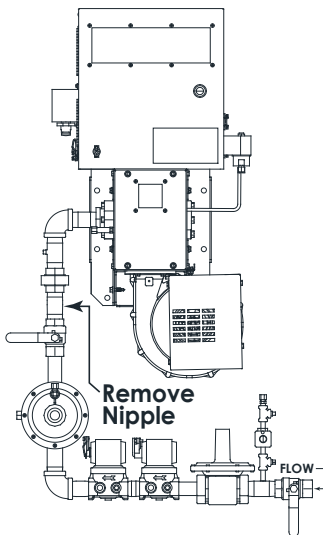

Figure 1 - Flow Direction
2. Remove nipple upstream of the union (See Figure 1), and replace with the nipple and orifice supplied in the conversion kit. Ensure that the nipple is installed so that the orifice is closest to the burner.